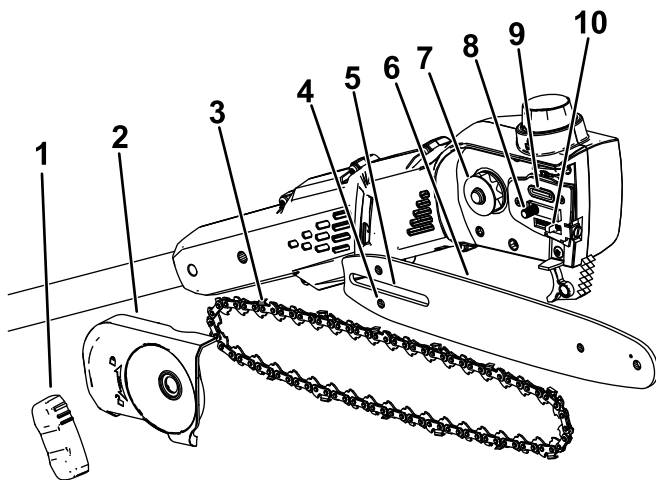

Figure 21
2. Remove the side cover; turn the bar cover knob counterclockwise until the knob is removed and then remove the side cover (Figure 21).
7. Check the oil outlet (Figure 21) for debris and clean the area if necessary.
Important: Ensure that the chain adjusting stud is inserted into the chain adjusting stud slot on the guide bar (Figure 21). You may need to rotate the chain-tensioning screw to fit the stud into the hole in the guide bar.